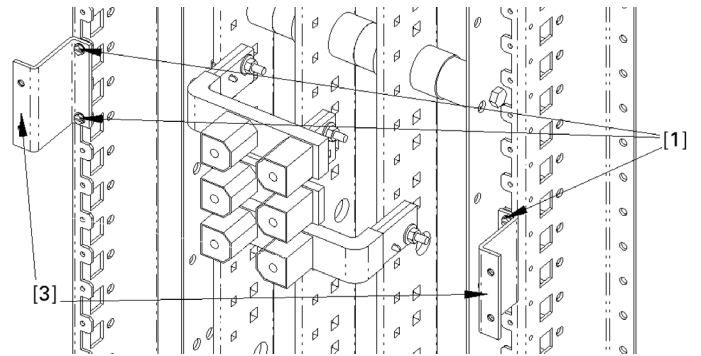

Figure 21. Installing the breaker mounting brackets [3].
**6. Install the breaker mounting brackets.** Secure the breaker mounting brackets [3] to the panel side rail with thread-forming screws [1], as shown in Figure 21. Tighten the screws to 30 in-lb.